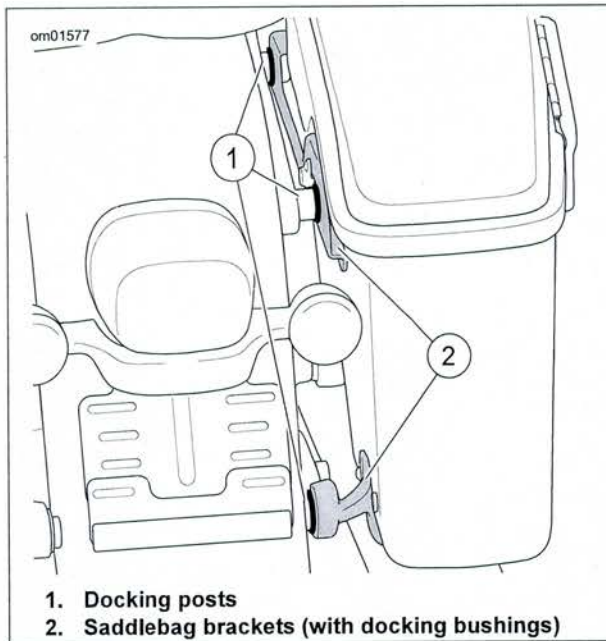

Figure 1. Saddlebag Installation: FLD Model
2. See Figure 1. Hold the saddlebag and slide it toward the rear of the motorcycle to remove it from the three docking posts.
1. See Figure 1. With the knob in the UNLOCK position, slide the saddlebag on to the motorcycle, engaging the saddlebag brackets to the three docking posts on the side of the motorcycle.